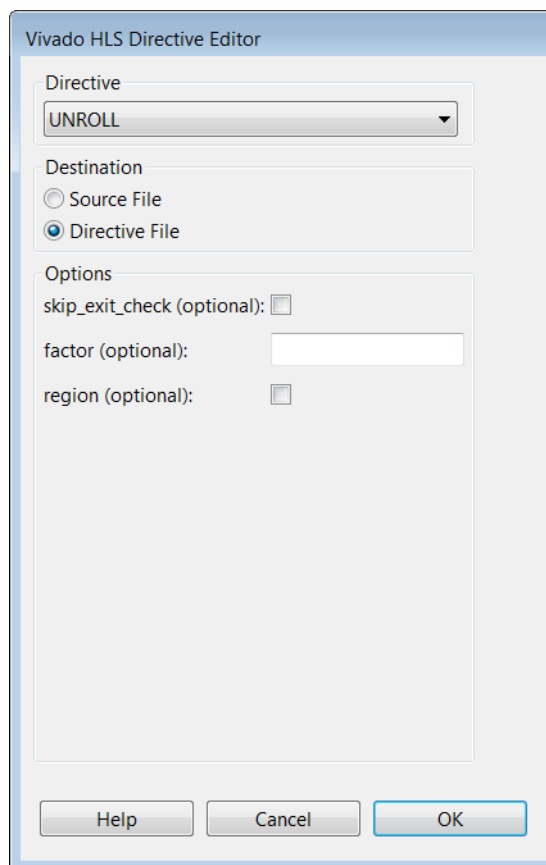

Figure 4-17: Directive Editor to Unroll For\_Loop
- b. With the Directive Editor as shown in Figure 4-17, click **OK**.